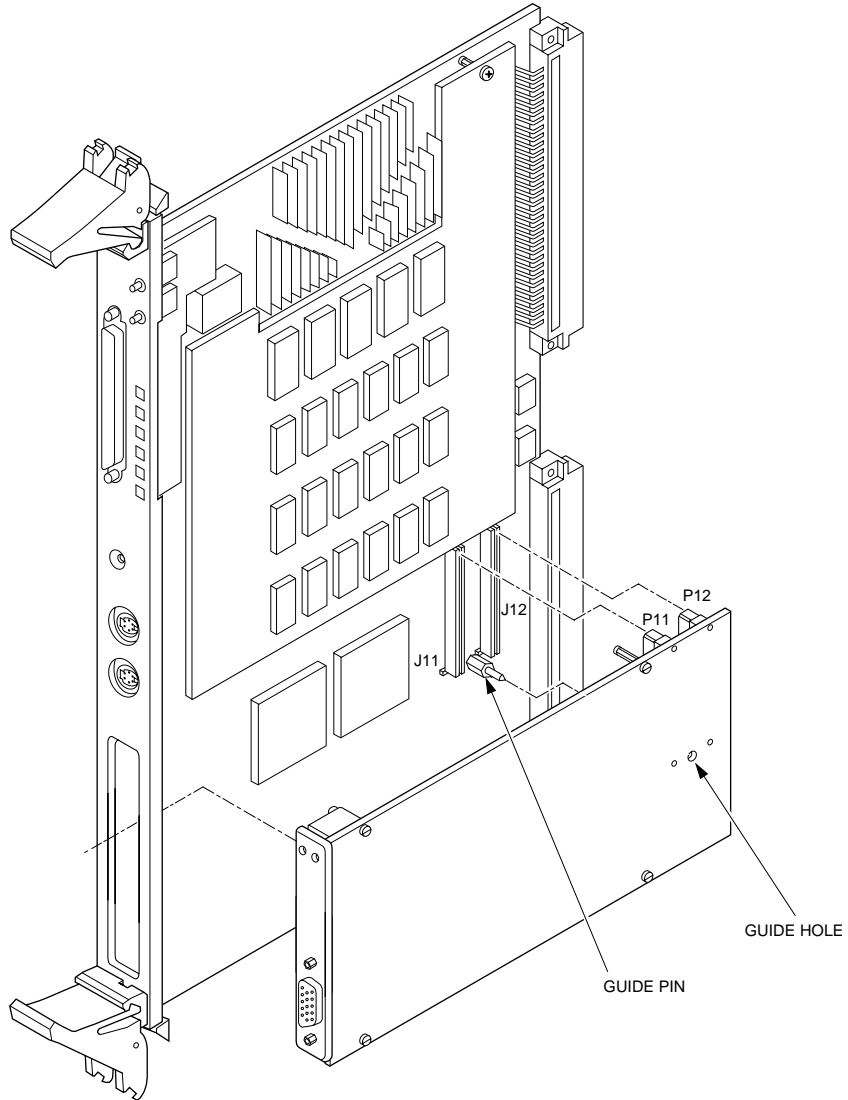

Figure 2-1. Installing the MPMC301 on the Carrier Board
6. Turn the MPMC301 component-side down, and position it above the carrier board as shown in Figure 2-1 (an MVME2600x carrier board is shown).
Note Refer to Figure 2-1 when performing steps 7, 8, and 9.